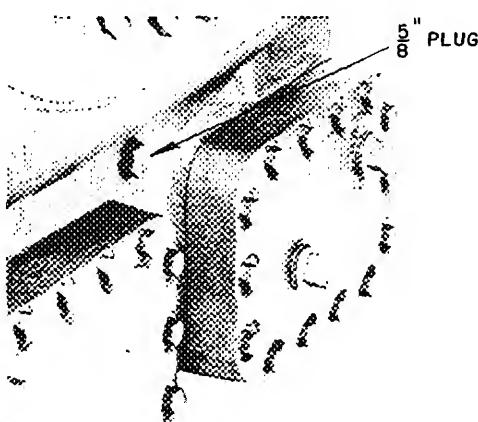

FIG. 37 - 5H80, 120 CENTER MAIN BEARING HOUSING LOCKSCREW LOCATION
Replace with the current sleeve type rotary bellows seal. (Fig. 37 and 38.) A new, matching cover plate must be used on 5F compressors when converting to rotary bellows seal.
2. For the 5H80 and 5H120, remove the center main bearing lock screw located beneath the plug shown in Fig. 37. On the 5H120 disconnect the oil line to the center main bearing housing.
2. Remove the 5/8" plug on the side of the crankcase. (See Fig. 37.)